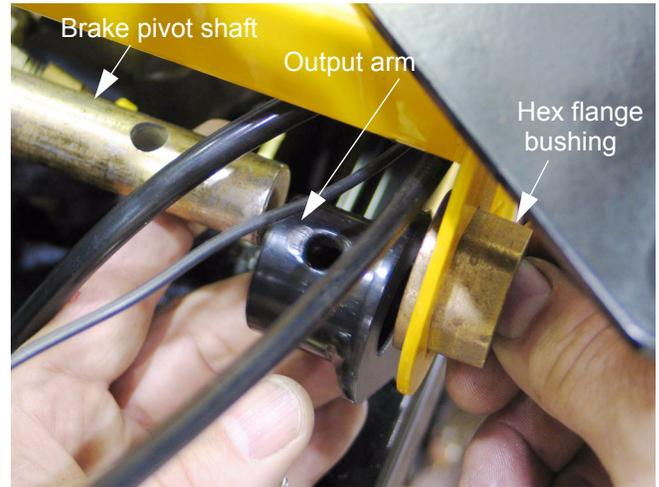

Figure 22.10
- 22.10. From this point, the brake pivot shaft can be driven far enough to achieve any necessary repairs using a soft drift. See Figure 22.10.